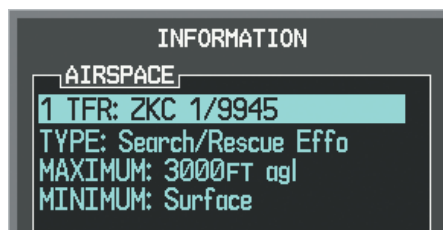

Figure 6-90 Full Text for Selected TFR
- 4) If necessary, turn the **FMS** Knob to select 'Review Airspaces' and press the **ENT** Key. The system displays the TFR Information window (Figure 6-90).